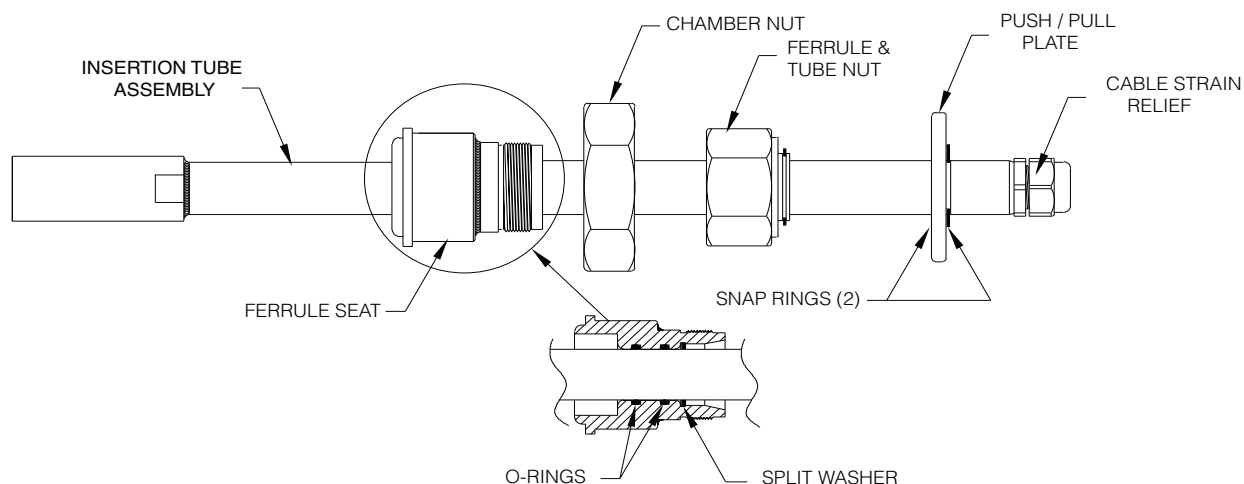

Figure 21. Replacing O-Ring Seals and Split Washer in the Ferrule Seat
2. Referring to Figure 21, remove the cable strain relief fitting from the insertion tube.